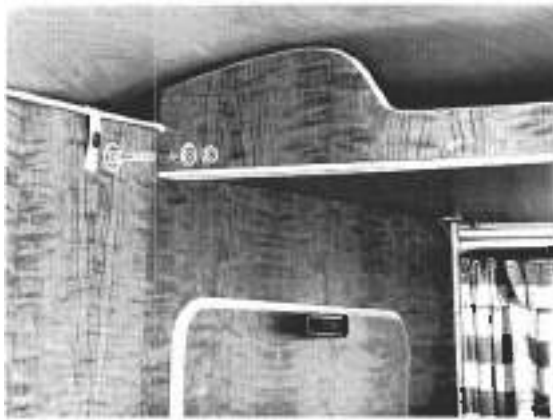

Fig. 7-17. Bolt at right hand side of storage shelf
2. Remove the nut, washer, and carriage bolt at the right-hand side of the storage shelf. Push the bolt back into the linen/clothes closet (Fig. 7-17).